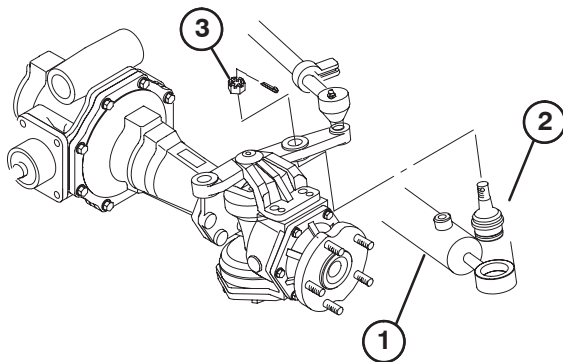

Figure 5
3. Secure rod end of steering cylinder to steering arm with a ball joint and slotted nut as shown in figure 5. Apply medium strength blue Loctite to nut before assembly. Tighten nut to 130–150 ft–lb. Secure with cotter pin.